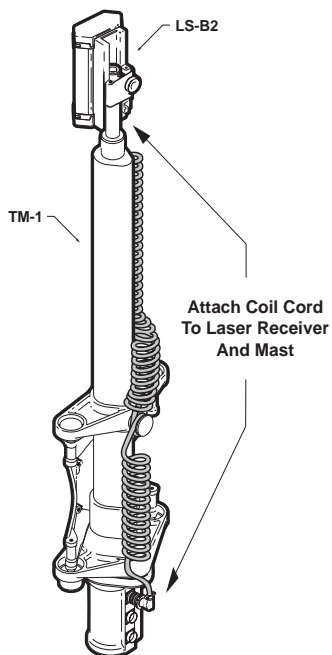

Figure 1-9. Connecting Coil Cord
3. Connect the coil cord to the laser receiver and TM-1 Mast (Figure 1-9).